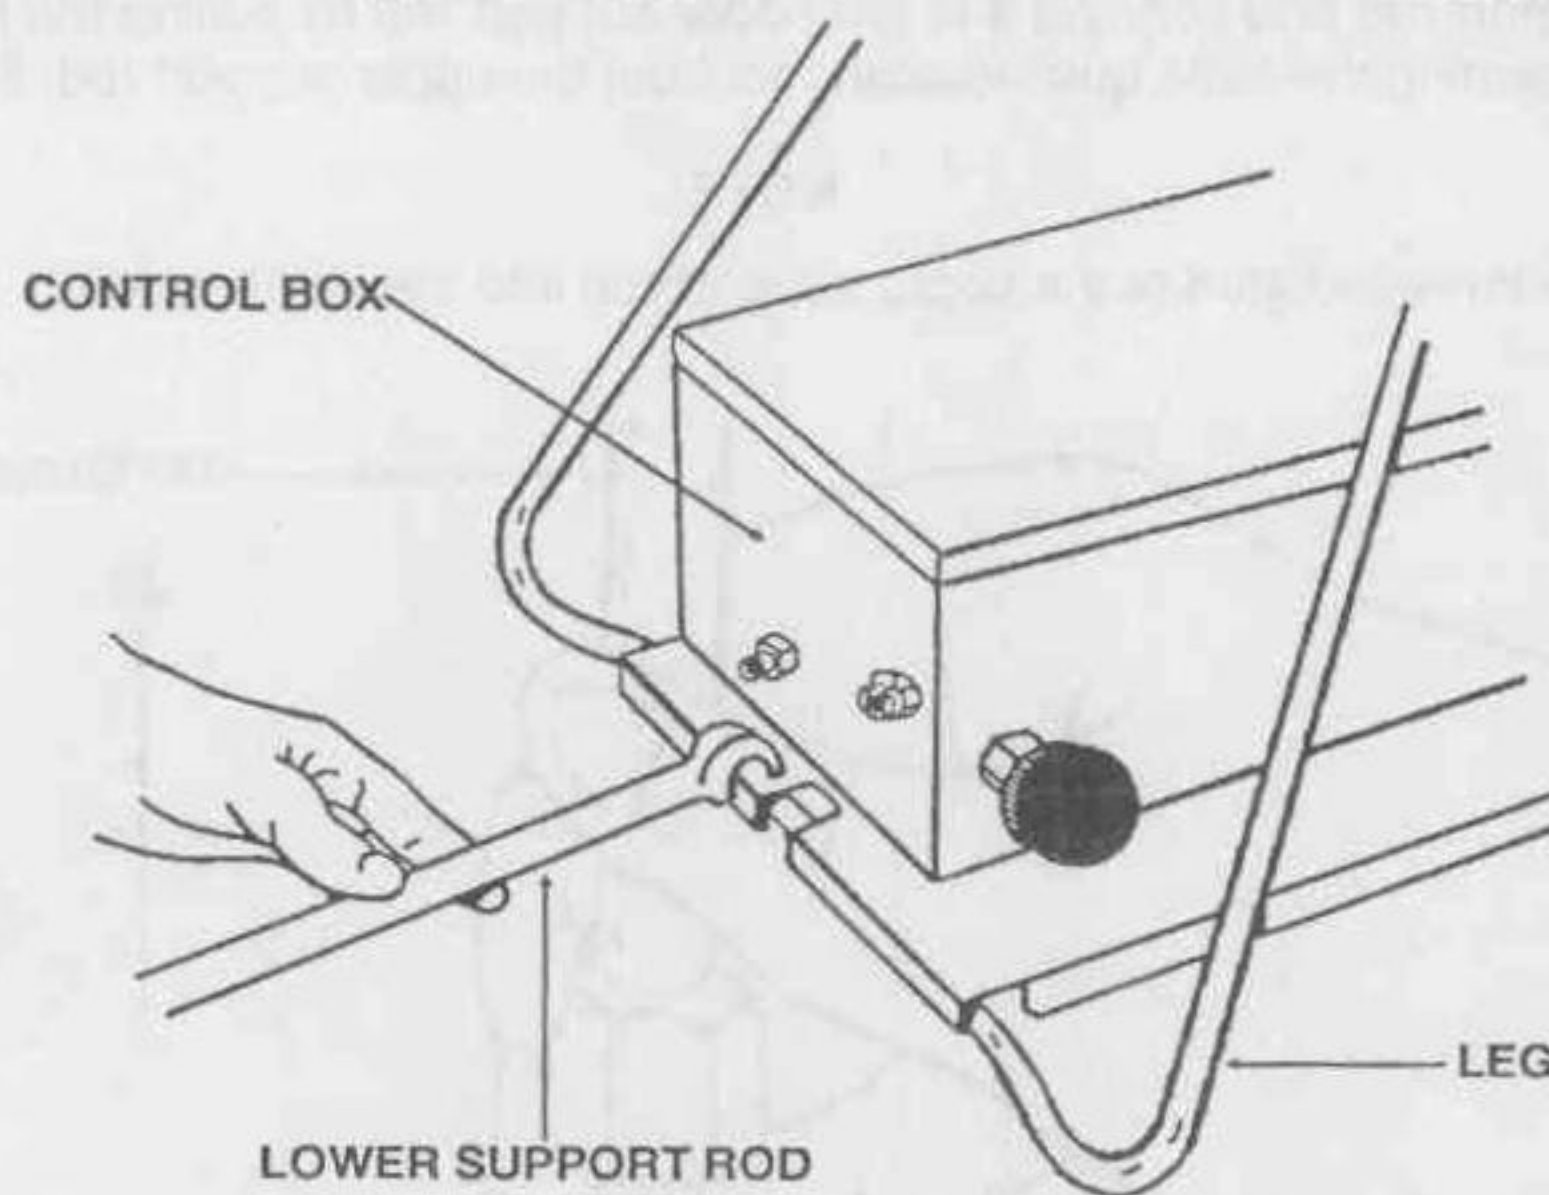

Figure 2-7. Lower support rod installation.
d. Insert the hook of the lower support rod through the cutout in the rear of the control box. The hook opening will face downward. Place the lower support rod on the ground or floor until later as illustrated in figure 2-7.